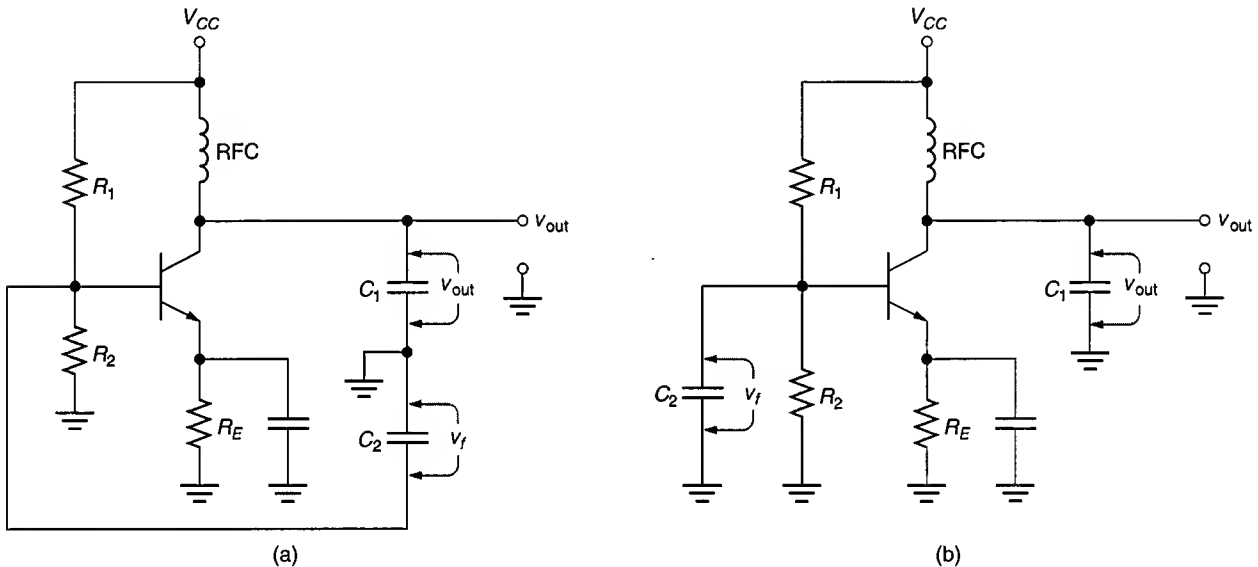

FIGURE 18.11
Points 1 and 2 are easier to see if we simplify the circuit as shown in Figure 18.11. In Figure 18.11a, we have dropped the inductor (L) from the circuit. Then, in Figure 18.11b, we split the capacitors at the ground connection. As you can see, the input voltage to the amplifier is developed across C_2 . Therefore, C_2 must be the source of the feedback voltage. C_1 is obviously across the output of the amplifier. Therefore, v_{out} is measured across this component. Now, the trick is to see how the voltages across these two components are always 180° out of phase.
Figure 18.11 demonstrated the fact that C_1 and C_2 are in series. Therefore,
Note: This is the circuit developed in Figure 18.11 with added BJT capacitances. The coupling capacitors and emitter circuit have been shorted as they typically are in ac equivalent circuits.